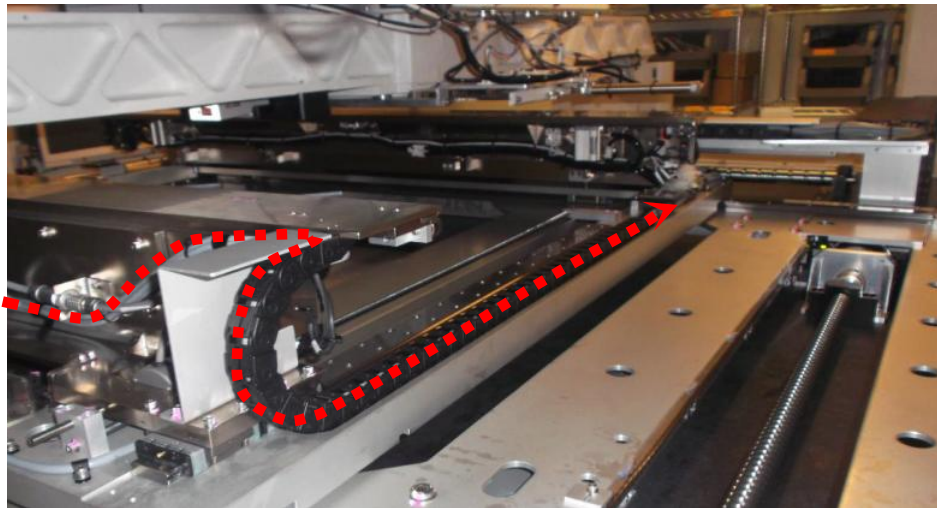

Figure 10 Stepper Motor Cable Removal (AWA E-Chain)
14. Remove 4LASC-A078 from AWA E-Chain as below Figure 10